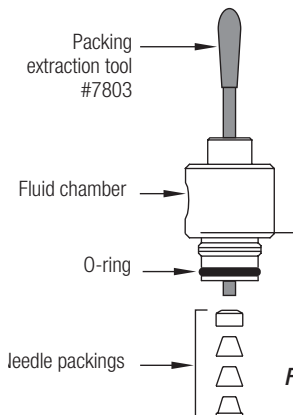

Figure 1
3. Remove the needle packings from the fluid chamber, using tool #7803 supplied with the valve. Insert through outlet end of fluid chamber and push out the packings. *See Figure 1.*